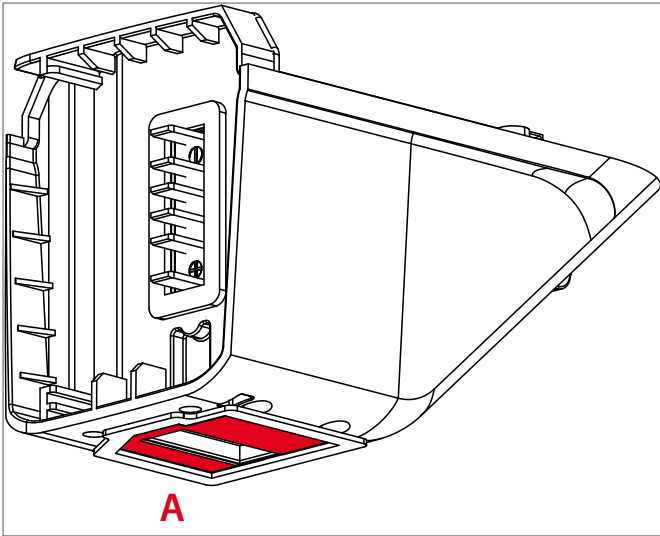

Figure 4.18 Docking station - Thermally conductive pad
1. Install the thermally conductive pad on the bottom of the heat sink [A] (Fig. 4.18).